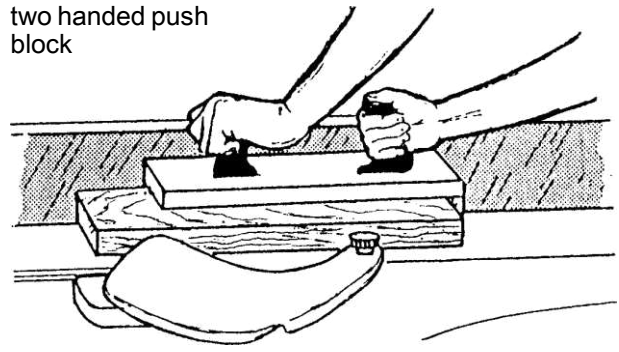
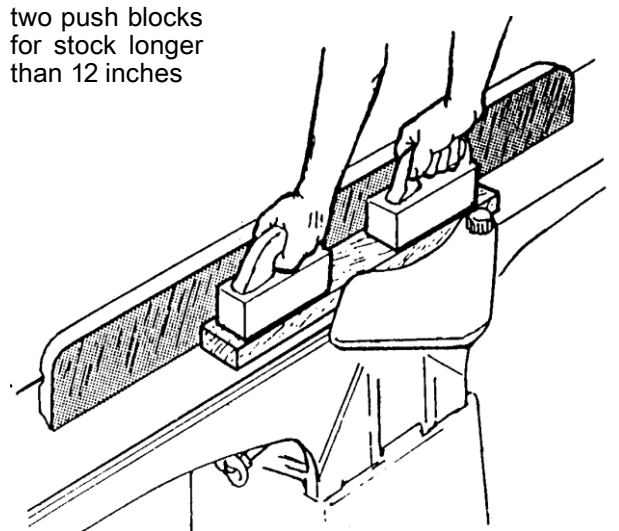
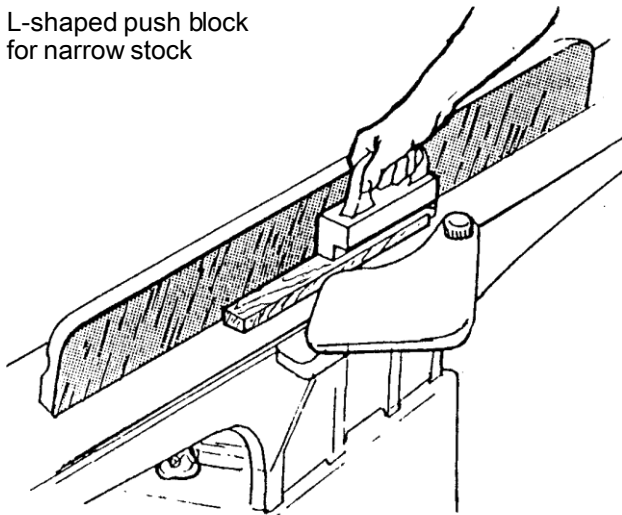
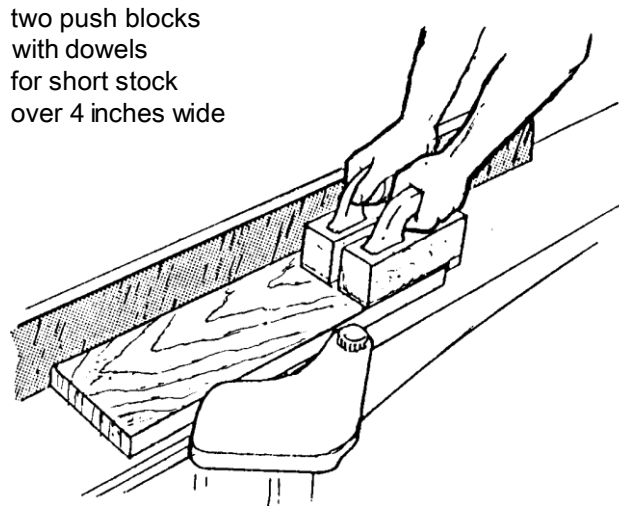

FIGURE 27a
FIGURE 27b
FIGURE 27c
FIGURE 27d
Never surface pieces shorter than 12 inches or thinner than 3/8 inch without the use of a special work holding fixture. Never surface pieces thinner than 3 inches without the use of a push block. On stock 8" to 12" long use a single two-handed push block (Fig. 27a). On stock longer than 12 inches use two push blocks (Fig. 27b). With narrow stock use the type push block shown in Fig. 27c. When surfacing short stock over 4 inches wide, use two (2) push blocks to guide material over cutterhead (Fig. 27d).